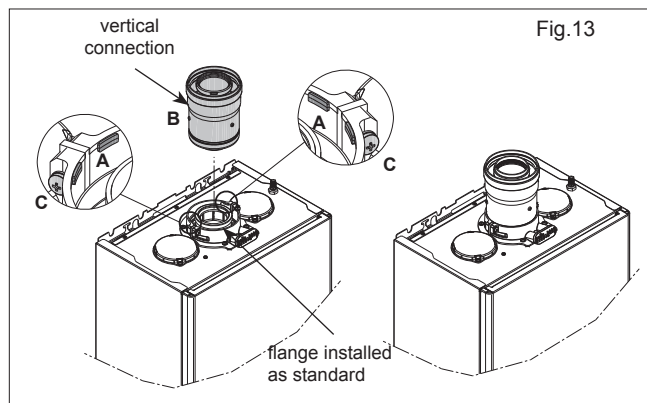

Fig.13
NOTE (Fig.13): The appliance incorporates a 'click-fit' flue connection. Ensure that both screws 'C' on the 'click-fit' have been slackened off. Ensure that the connector is correctly aligned with the 'click-fit' and insert it into the 'click-fit' until it clicks into position (this is when the tabs at points 'A' are located in the groove of the vertical flue connector). Both screws (C) should now be tightened.